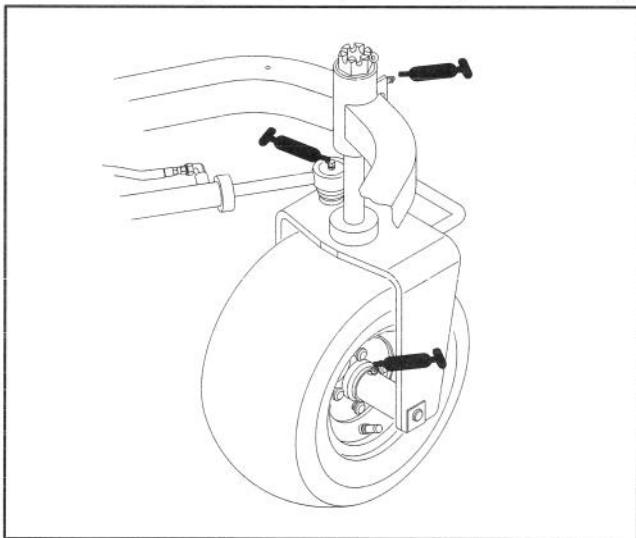
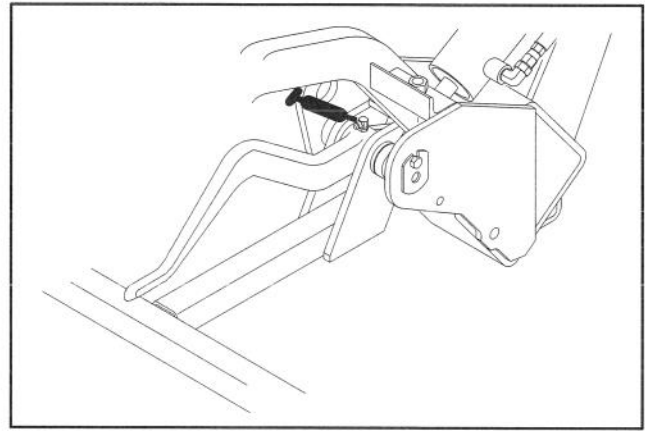
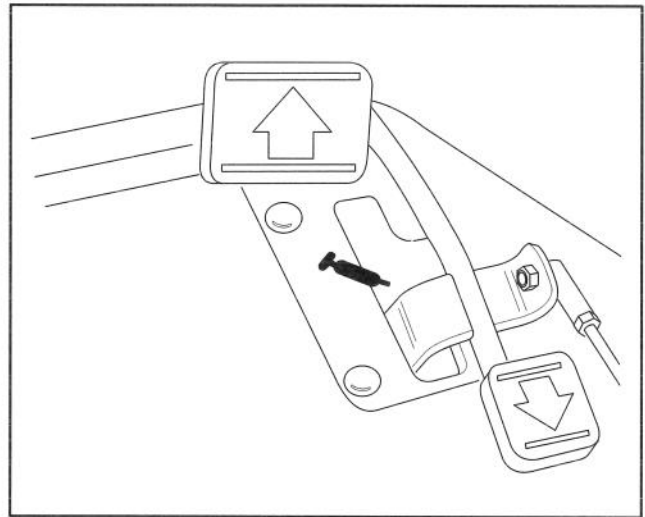

Figure 23
Figure 24
Figure 25
The traction unit bearings and bushings that must be lubricated are: Rear wheel hub (1), Castor bearing (1), Steering cylinder (2) (Fig. 23), Lift arms (3) (Fig. 24), Traction pedal pivot (1) (Fig. 25).